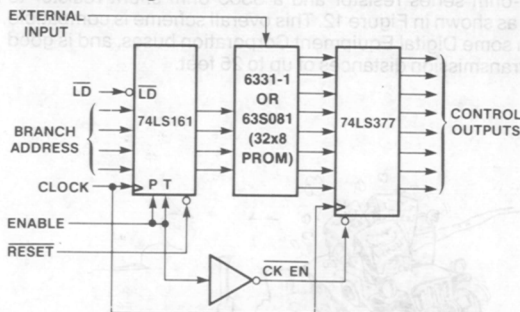

Figure 11. Synchronous PROM-Based Control Sequencer
Synchronizing the state changes of a PROM-based control sequencer is easily performed using a register with a clock-enable feature, like the 'LS377 shown in Figure 11. In his simple sequencer, a 4-bit counter steps through the PROM addresses. The counter may be reset to address 0000, or loaded with any 4-bit address. The 32 x 8 PROM, with five address lines, allows for one external input as well as the four bits from the counter. The PROM outputs are pipelined using the 'LS377, which eliminates PROM output glitches, synchronizes the state changes of the sequencer with the system clock, and speeds up the effective cycle time. The availability of enable control inputs on both the counter and the 'LS377 allows forcing "wait" states, where both the counter and the register hold their current state for extended periods of time. If a higher-speed implementation of this design is needed, a 74S161 or 93S16 counter can replace the 74LS161, one of Monolithic Memories' new 93S081 ultra-speed 32 x 8 PROMs (25 nanoseconds worst-case and 9 nanoseconds typical for t_{AA} , instead of 50 and 17 nanoseconds respectively) can replace the 6331-1, and in 'S377 can replace the 'LS377.
2) monitor the state changes of a PROM-based control sequencer is easily performed using a register with a clockenable feature like the L537, shown in Figure 11. In this example, a 4-bit counter steps through the PROM addresses. The counter may be reset to address 0000 or loaded with any 4-bit address. The 32 x 8 PROM with two address lines allows for one external input as well as the four pins from the sequencer. The PROM outputs are pipelined using the L537, which eliminates PROM output glitches. The L537 synchronizes the state changes of the sequencer with the system clock and speeds up the effective cycle time. The availability of enable control inputs on both the counter and the L537 allows forcing "wait" states where both the counter and the register hold their current state for extended periods of time. If a high-speed implementation of this design is needed, a JAE161 or J5316 counter can replace the JAE161. One of Monolithic Memories' new J53081 ultra-speed 32 x 8 PROMs (22 nanoseconds worst-case and 9 nanoseconds typical) can replace the J5316 and J53081 (respectively) can replace the J5316 and J53081.